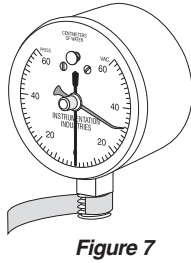

Figure 7
3. Attach the **NIF Meter** to the appropriate adapter(s). (see Figures 7 and 8 in panel G for instructions)
1. Prior to installation, at least two layers of teflon tape **MUST** be applied to threads. (Figure 7)